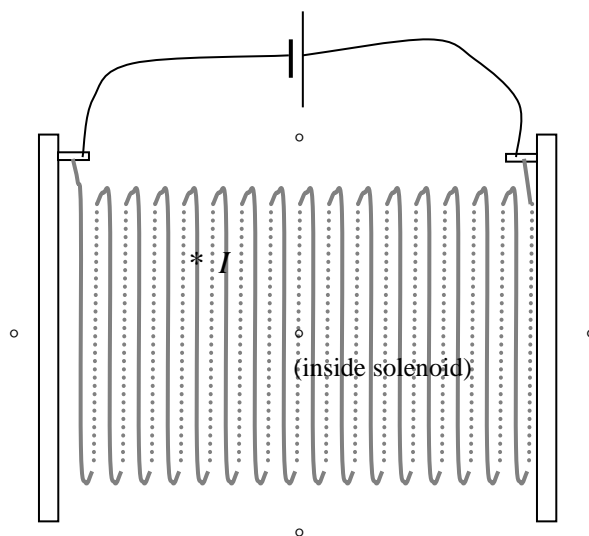

Figure 2
1. Connect the two ends of the solenoid to the battery as shown in Figure 2. *Mark the direction of the conventional current I at point *.*
6. *If the magnetic field appears to be continuous, join the field vectors (arrows) with continuous lines on Figure 2.*